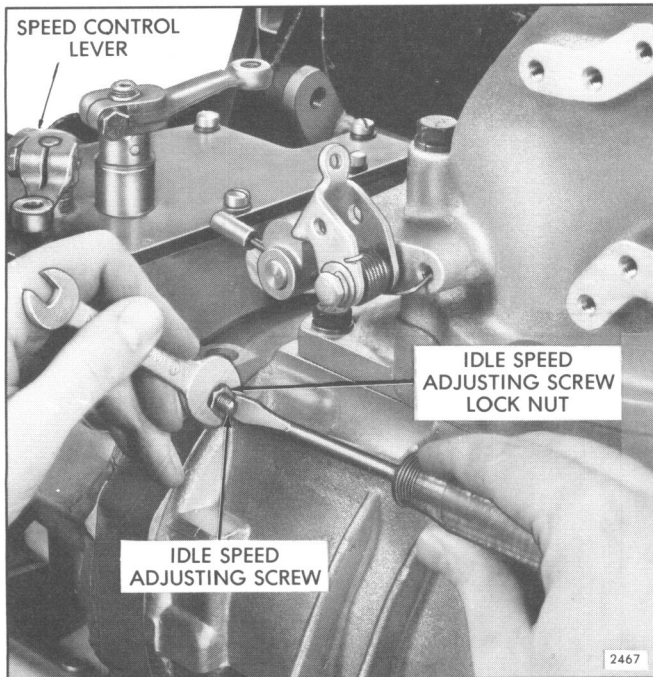

Fig. 16 – Adjusting Engine Idle Speed
1. With the engine running, at normal operating temperature and with the buffer screw backed out to avoid contact with the differential lever, turn the idle speed adjusting screw until the engine operates at approximately 15 rpm below the recommended idle speed (Fig. 16).